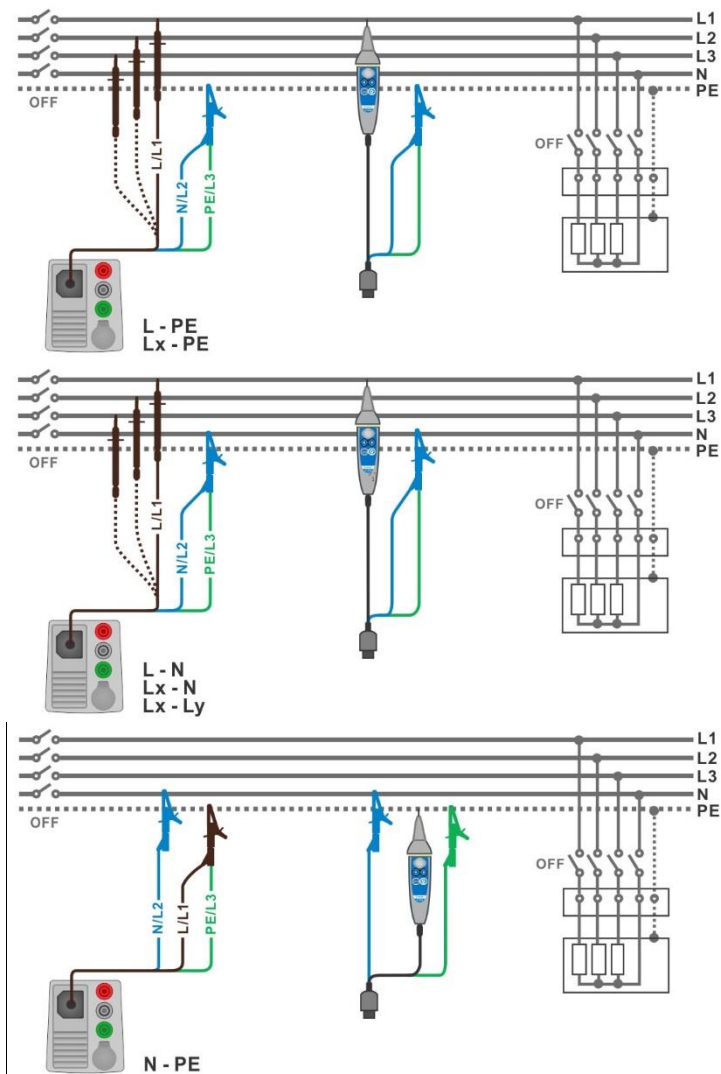
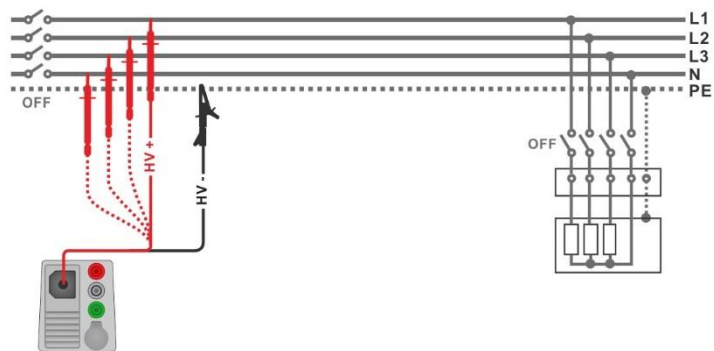

Figure 7.7: Connections of 3-wire test lead and Tip commander ($U_N \leq 1$ kV)
Figure 7.8: Connection of 2.5 kV test lead ($U_N = 2.5$ kV)
- Connect test leads to object under test (see **Figure 7.7** and **Figure 7.8**). Different test cable must be used for testing with nominal test voltage $U_N \leq 1000$ V and $U_N = 2500$ V. Also different test terminals are used. The standard 3-wire test lead, Plug test cable or Tip commander can be used for the insulation test with nominal test voltages ≤ 1000 V. For the 2500 V insulation test the two-wire 2.5 kV test lead should be used.